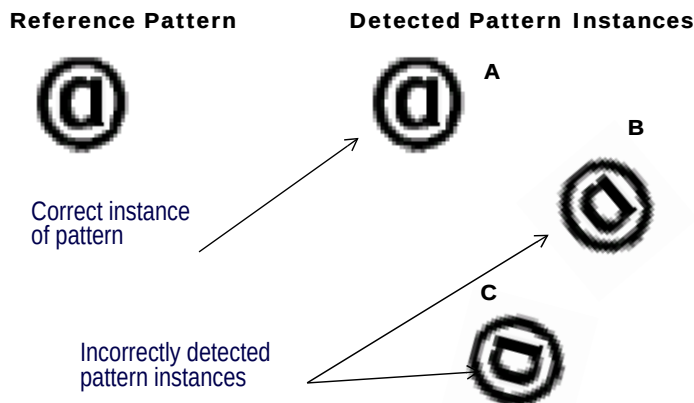

Figure 332 Detecting Symmetric Patterns
- For example, in Figure 332, a large part of the pattern consists of a circular, and thus symmetrical contour. Also, a large part of the inner “a” pattern can also be identified at any rotation. Because of this rotational symmetry, the Pattern Locator cannot disambiguate the various poses of the pattern.